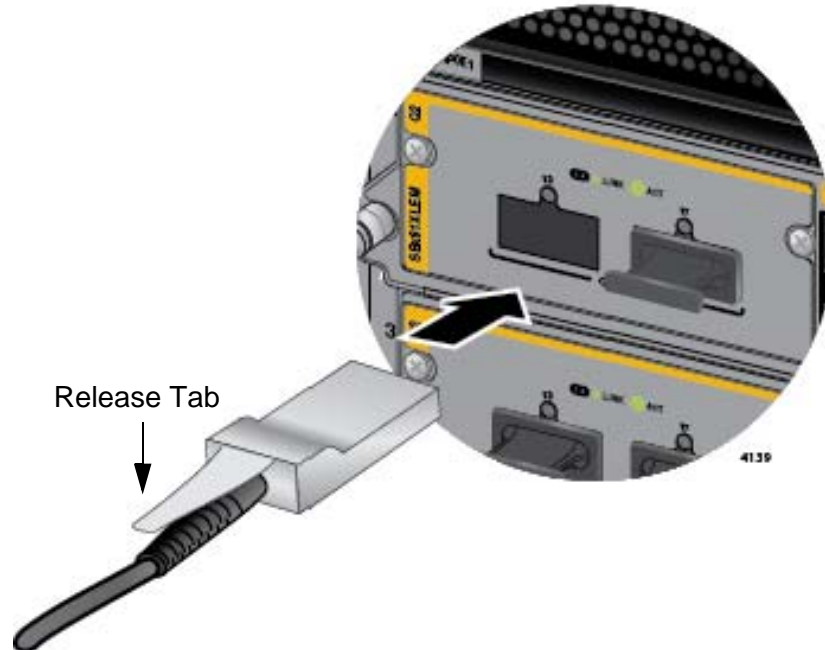

Figure 103. Sliding the AT-QSFPCU Cable into the Slot
2. Orient the connector on the AT-QSFPCU Cable with the release tab on top and slide it into the slot until it clicks into place. Refer to Figure 103 on page 165.